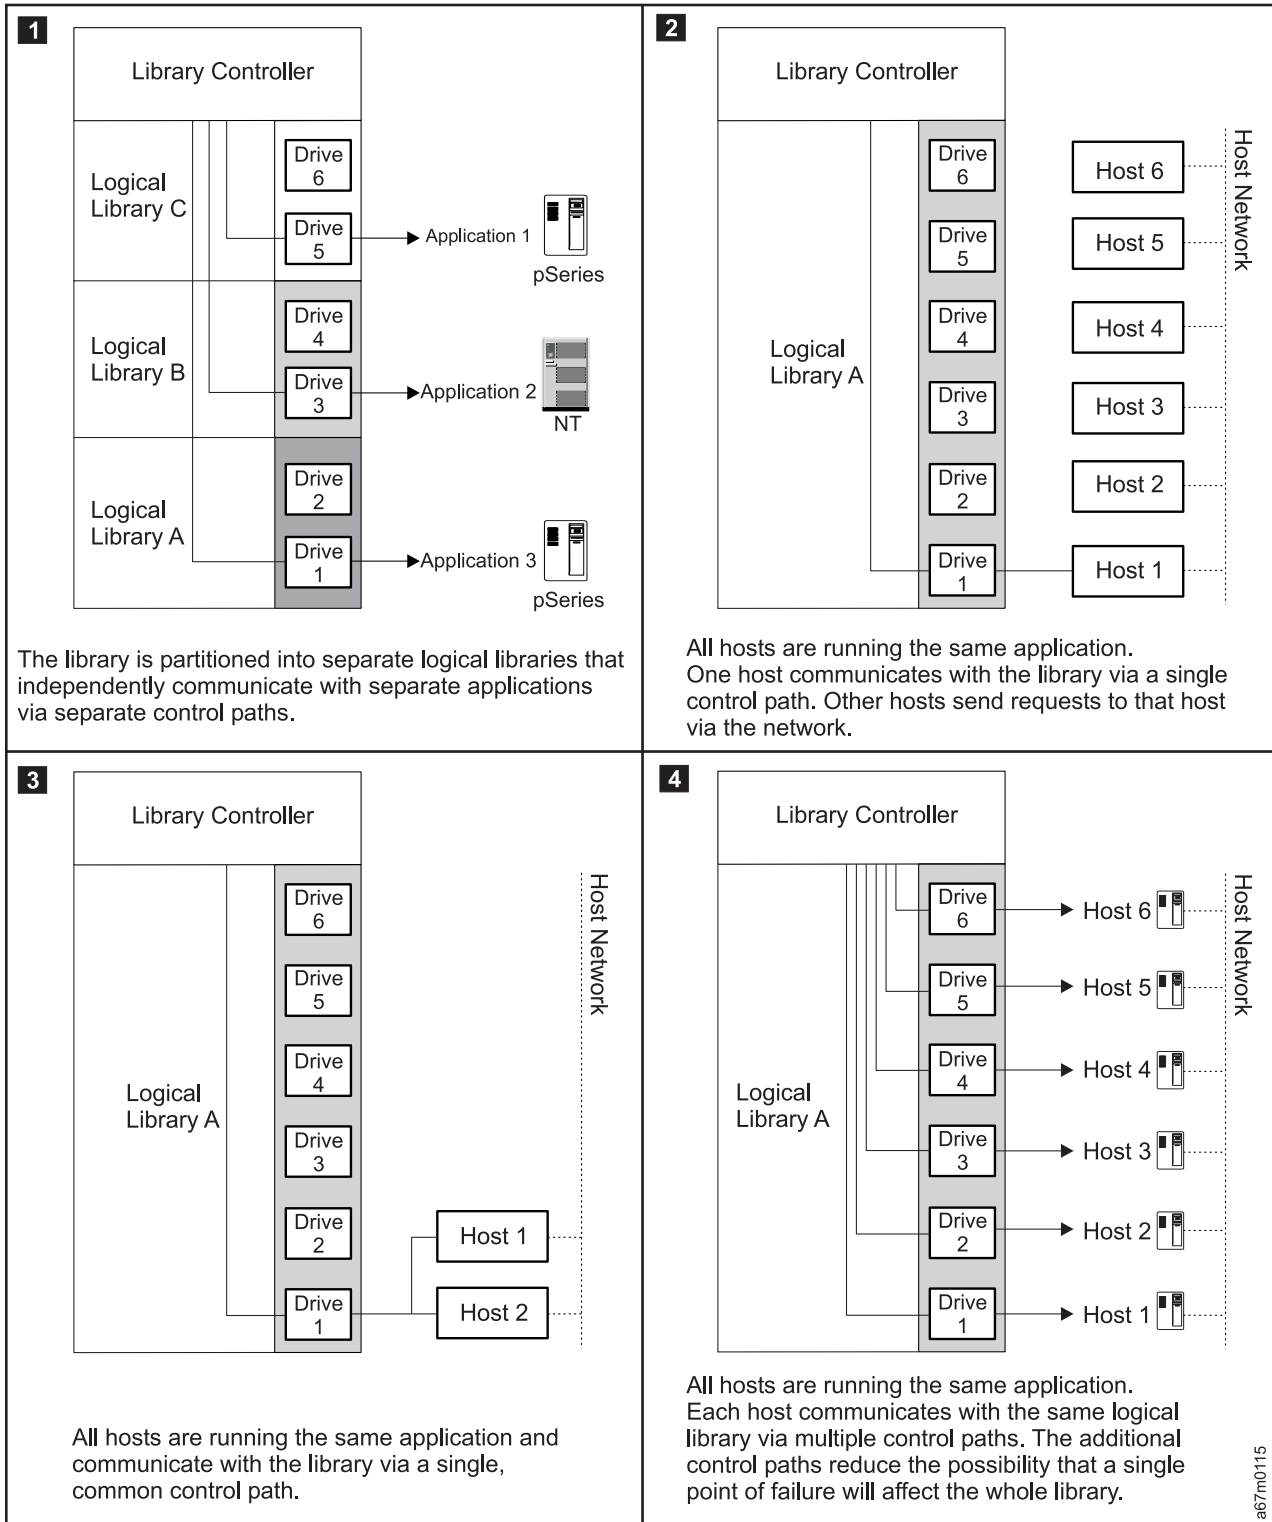

Figure 1-7. Examples of configurations for a Ultrium Scalable Tape Library. Lines from one or more drives to the library controller represent control paths.
- Configure the library so that it is partitioned into separate logical libraries that independently communicate with separate applications through separate control paths. This configuration (see example **1** in Figure 1-7 on page 1-22) requires no special capabilities from the server or application. (For more information, see “Using Multiple Logical Libraries” on page 1-23.)
- Configuring one server (host) to communicate with the library through a single control path; all other servers send requests to that server through a network (see example **2** in Figure 1-7 on page 1-22). This configuration is used by Tivoli® Storage Manager (TSM).
- Configuring all of the servers to communicate with the library through a single, common control path (see example **3** in Figure 1-7 on page 1-22). This configuration is used in high-availability environments such as IBM’s High Availability Clustered Microprocessing (HACMP) and Microsoft’s Systems Management Server (SMS) and Clustered Server Environments. Multi-initiator configurations are only supported by certain adapters and ISVs. Check with your ISV.
- Configuring a single logical library to communicate with multiple servers through multiple control paths. This configuration (see example **4** in Figure 1-7 on page 1-22) requires that you add control paths (see “Using Multiple Control Paths” on page 1-23). It is used by Backup Recovery and Media Services (BRMS).